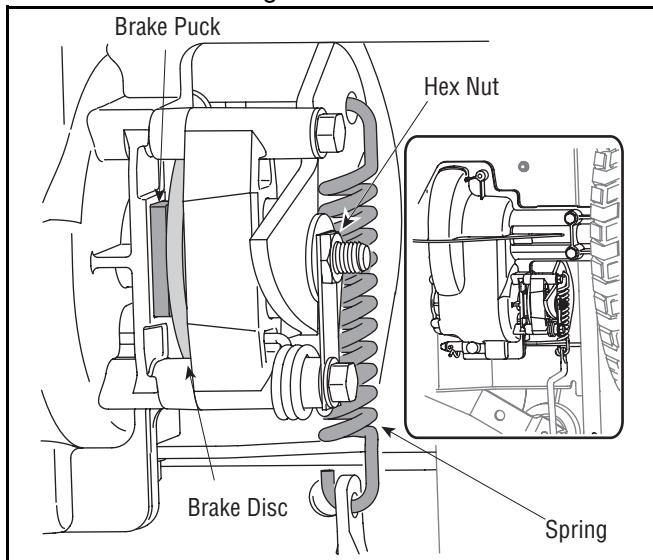

Figure 15
- Looking at the transmission from beneath the rear of the tractor, locate the compression spring and brake disc. See Figure 15.
- Loosen, but do NOT remove, the hex nut found on the right side of the brake assembly. See Figure 15.